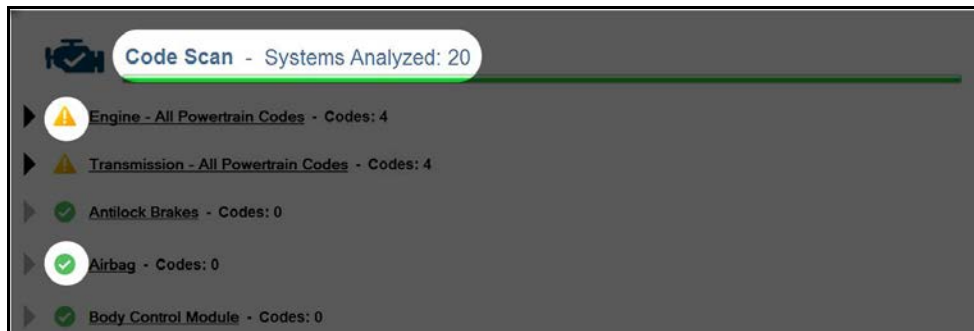

Figure 4-13 Code Scan (scanned system total and status icons)
Selecting **Code Scan** from the Vehicle System menu starts an active scan of vehicle control modules, and opens the Code Scan results screen (Figure 4-13). When initially opened, a progress bar is shown at the top indicating the active scanning progress. Once completed, code results are displayed by system.
- **The total number of systems (modules) detected** (Figure 4-13).
Quick reference indicators are used to show system code status (Figure 4-13):